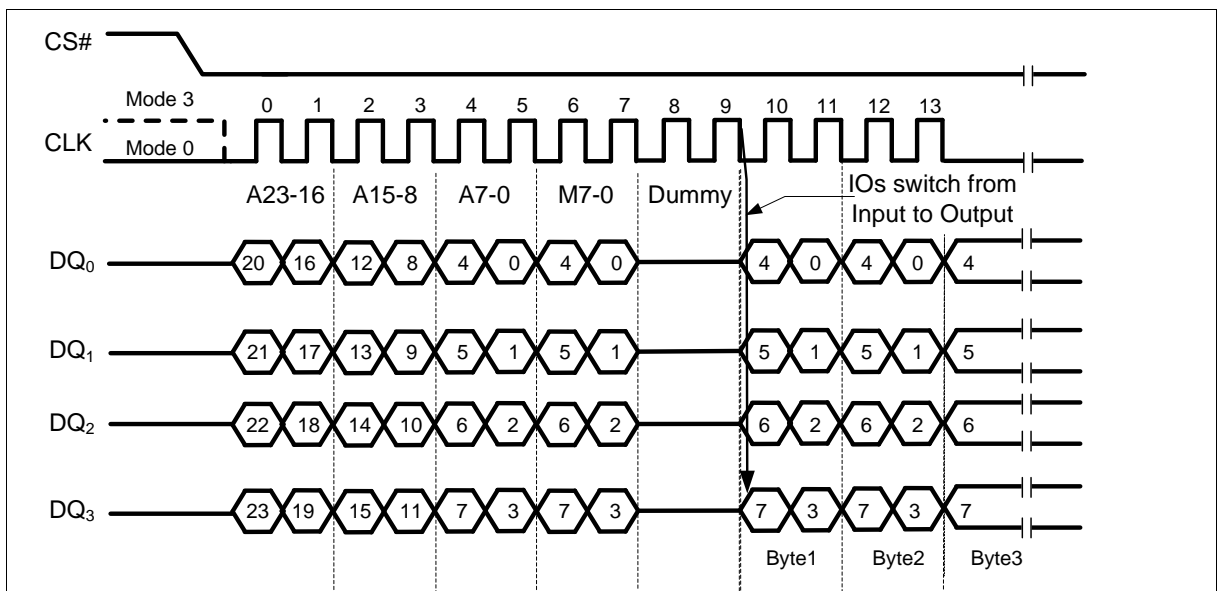

Figure 27 Word Read Quad I/O Instruction (Previous instruction set M5-4 = 10, SPI Mode only)
If the “Continuous Read Mode” bits M5-4 = (1,0), then the next Fast Read Quad I/O instruction (after CS# is raised and then lowered) does not require the E7h instruction code, as shown in Figure 27. This reduces the instruction sequence by eight clocks and allows the Read address to be immediately entered after CS# is asserted low. If the “Continuous Read Mode” bits M5-4 do not equal to (10), the next instruction (after CS# is raised and then lowered) requires the first byte instruction code, thus returning to normal operation. It is recommended to input FFh on DQ0 for the next instruction (8 clocks), to ensure M4 = 1 and return the device to normal operation.